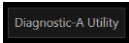

Fig. 8 - 'Diagnostic-A Utility' Button
- ④ **Diagnostic A-Utility:** To start the Diagnostic A-Scan application, select the 'Diagnostic A-Utility' button (Fig. 8).